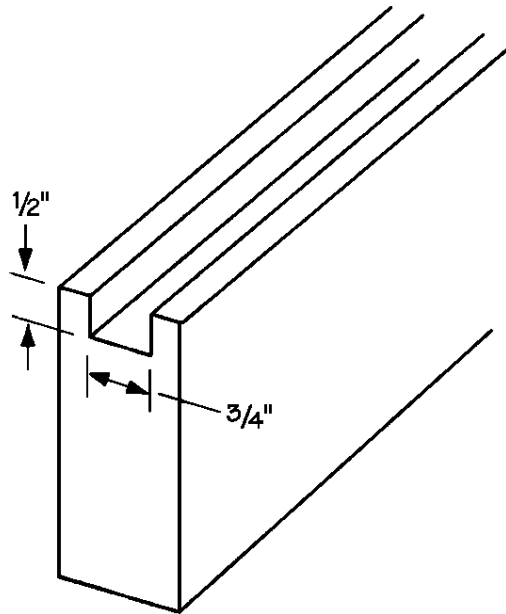
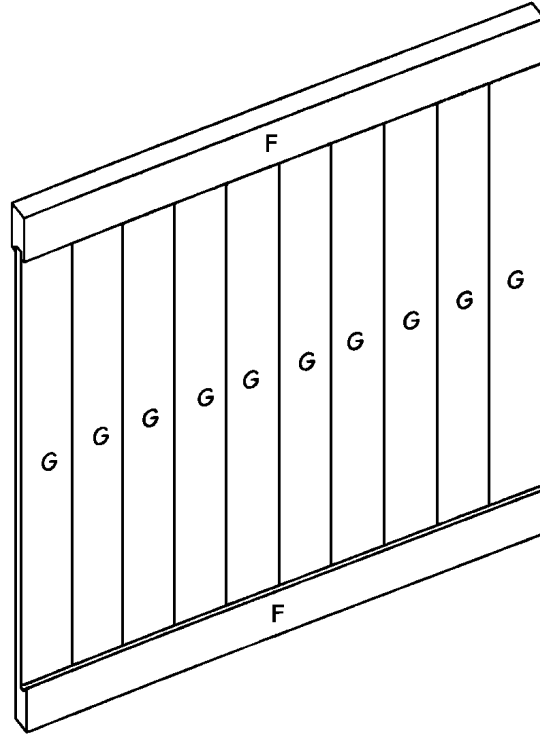
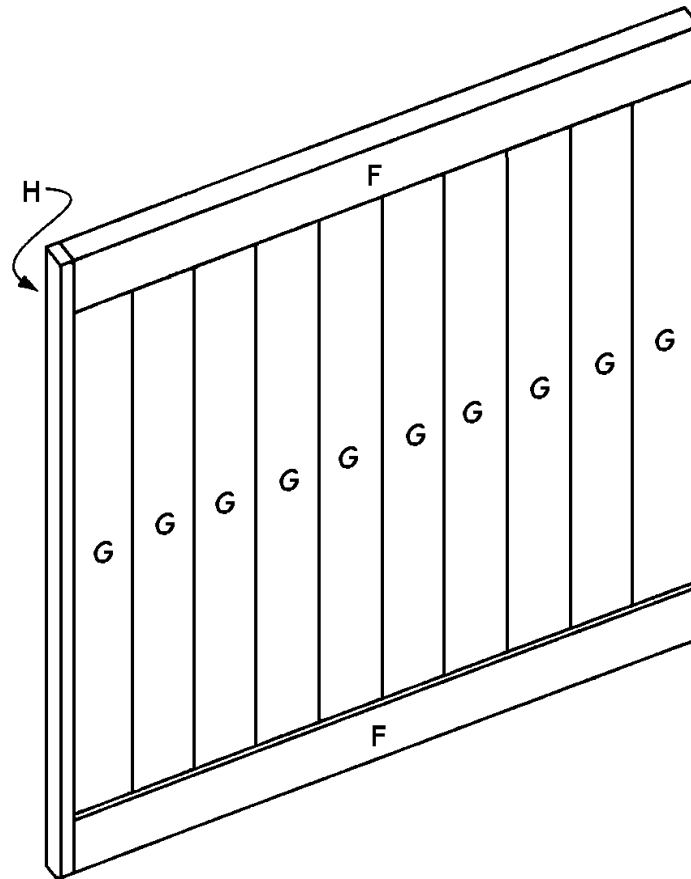
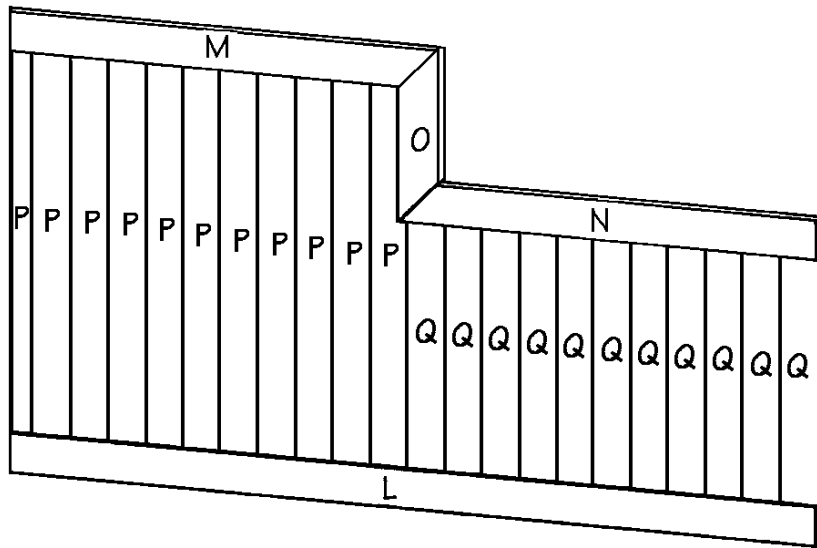

Figure 6
Figure 7
Figure 8
Figure 11
1. Cut two headboard top/bottoms (F) from 2 x 4 pine, each measuring 35 inches long.
2. Cut a 3/4-inch-wide dado 1/2-inch deep down the length of one edge of each of the headboard top/bottoms (F), as shown in *Figure 6*.
3. Cut ten headboard slats (G) from 1 x 4 pine, each measuring 35 inches long.
4. Working on a level surface, place the two headboard top/bottoms (F) parallel to each other, with the dados to the inside, as shown in *Figure 7*. Fit the ends of the ten headboard slats (G) into the dados in the headboard top/bottoms (F). When the headboard slats are properly fitted, the distance between the two headboard top/bottoms (F) should measure 34 inches. When the positions are perfect, the overall measurement of the headboard assembly should be 41 inches high and 35 inches long. Secure the headboard slats (G) by nailing through the back of the dadoed edge of the headboard top/bottoms (F) into the ends of the headboard slats (G) using two 1-1/4-inch (3d) finishing nails on each joint.
5. Cut one headboard side (H) from 1 x 2 pine measuring 41 inches long.
6. Apply glue to the edge of the end slat and attach the headboard side (H) to one side of the headboard assembly, as shown in *Figure 8*. Nail through the headboard side (H) into the ends of the headboard top/bottoms (F) and into the headboard slat (G). Use 1-1/4-inch (3d) finishing nails spaced every five inches.
1. Cut two footboard top/bottoms (G) from 2 x 4 pine, each measuring 35 inches long.
2. Cut a 3/4-inch-wide dado 1/2-inch deep down the length of one edge of each of the footboard top/bottoms (I), as shown in *Figure 6*.
3. Cut ten footboard slats (J) from 1 x 4 pine, each measuring 9-1/4 inches long.
4. Working on a level surface, place the two footboard top/bottoms (I) parallel to each other with the dados to the inside, as shown in *Figure 7*. Fit the ends of the ten footboard slats (J) into the dados in the footboard top/bottoms (I). When the footboard slats are properly fitted, the distance between the two footboard top/bottoms should measure 8-1/2 inches. When the positions are perfect, the overall measurement of the footboard assembly should be 15-1/4 inches high and 35 inches long. Secure the footboard slats (J) by nailing through the dadoed edge of the footboard top/bottoms (I) into the ends of the footboard slats (I) using two 1-1/4 inch (3d) finishing nails on each joint.
5. Cut one footboard side (K) from 1 x 2 pine measuring 15-1/4 inches long.
6. Attach the footboard side (K) to one side of the footboard assembly, in the same manner as shown in *Figure 8*. Nail through the footboard side (K) into the ends of the footboard top/bottoms (I) and into the footboard slats (J). Use 1-1/4-inch (3d) finishing nails spaced every five inches.
- Cut one lower top back (N) from 2 x 4 pine, measuring 39 inches long.
- Cut one back connector (O) from 2 x 4 pine, measuring 15-1/2 inches long.
- Cut a 3/4-inch-wide dado 1/2-inch deep down the length of one edge of the bottom back (L), the upper top back (M), the lower top back (N), and the back connector (O), as shown in *Figure 6*.
- Cut eleven long back slats (P) from 1 x 4 pine, each measuring 35 inches long.
- Rip one long back slat (P) to a width of 2 inches.
- Cut eleven short back slats (Q) from 1 x 4 pine, each measuring 23 inches long.
- Note that the back of the daybed is two different heights. In order to connect the different heights, the upper top back (M) and the lower top back (N) must be mitered on one end, and the back connector (O) must be mitered on both ends. Refer to *Figure 11* and cut 45-degree miters on each of these three pieces. Make certain that the dadoed edge is on the lower side, as shown in the illustration.